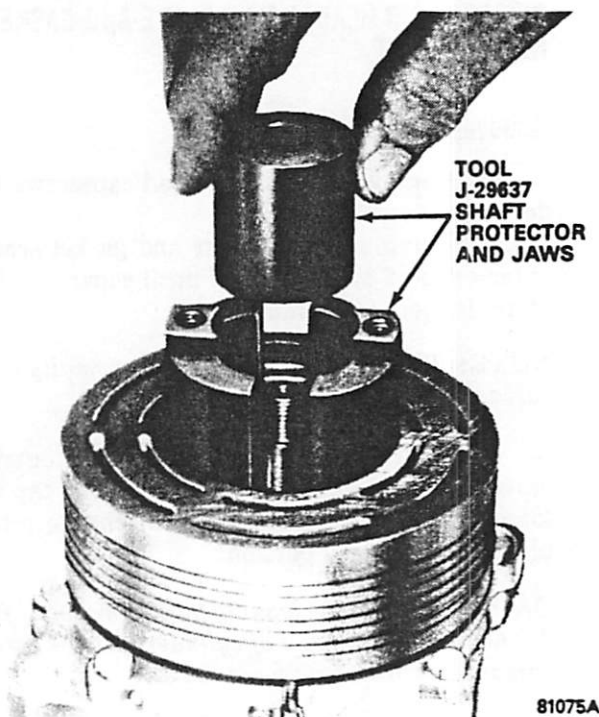

Fig. 3E-30 Removing Rotor Pulley with Jaws Installed
(3) Align rotor assembly squarely on front housing hub. Use suitable driver to drive rotor assembly onto shaft.
(4) Install internal bearing snap ring and then external bearing snap ring.
(5) Install front plate assembly using original clutch shims on compressor shaft.
(6) Install compressor shaft key.
(7) Align front plate keyway to compressor shaft key and using Clutch Face Installer J-29641 tap front plate onto shaft until it bottoms on clutch shims as shown in figure 3E-26.
(8) Install hex nut and torque to 25 to 30 foot-pounds (34 to 41 N•m) torque.
(9) Check air gap with feeler gauge. Air gap should consistently be .016-.031 inch around circumference of magnetic clutch. If air gap varies, pry up lightly at minimum variations and tap down at maximum variations. If air gap does not meet specifications remove hex nut and front plate.